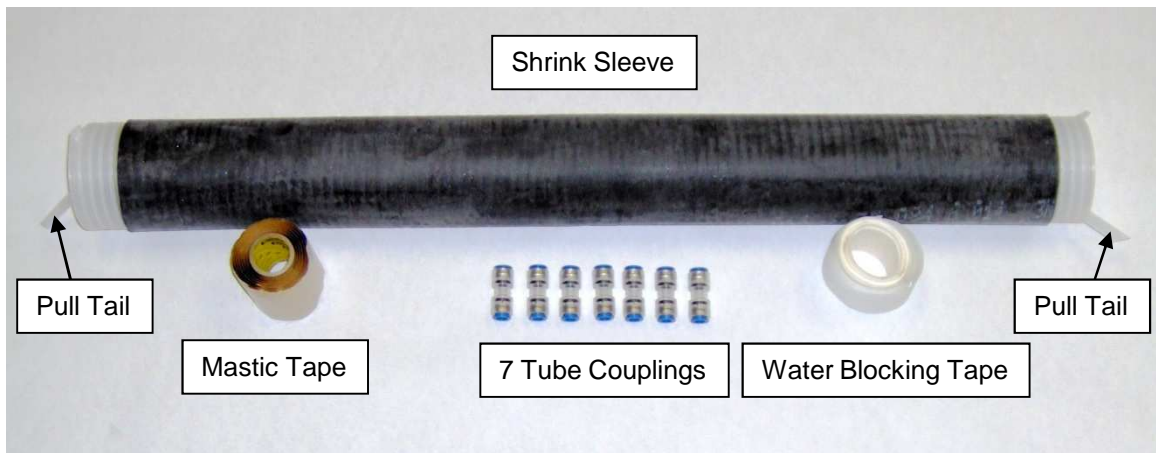

Figure 4
7.3 At both repair points, install Tube Cable Splice Kits in accordance with Sumitomo Recommended Procedure SRP SP-F04-016. **See Fig. 4.**